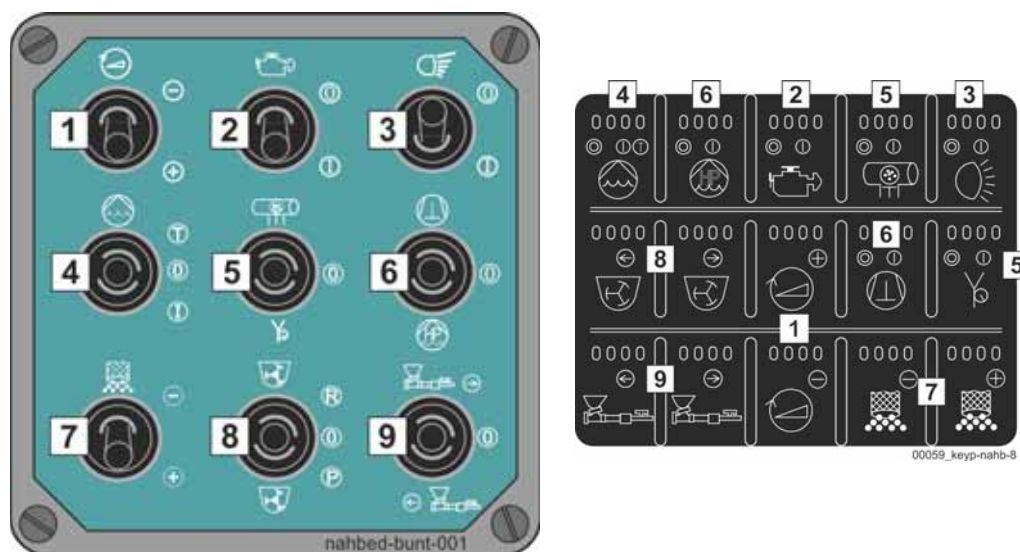

Fig. 114 Local control
- Switch all engaged selector switches on the local control unit (Fig. 114) to the neutral (0) position and unlock all EMERGENCY STOP buttons on the machine; otherwise, it will not be possible to start the machine up.
➤ Go to the local control unit (**Fig. 114**).